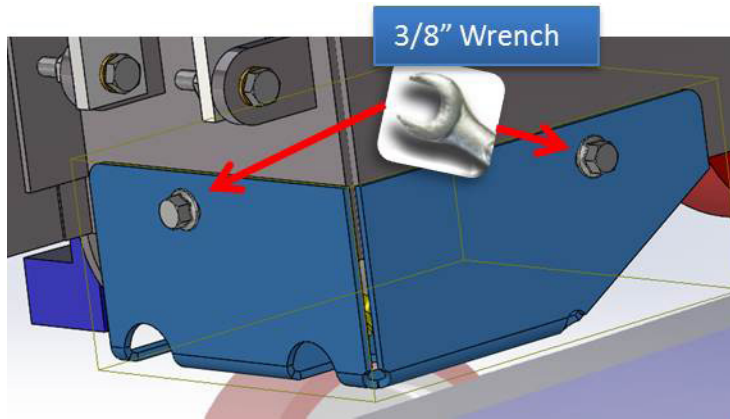

Figure 7. Pulley Cover Removal
6. Remove pulley cover (Figure 7).